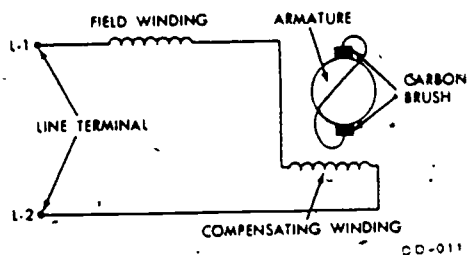

Figure 42. Schematic Wiring Diagram of a Single-Phase Repulsion Motor
**SIMPLE REPULSION MOTOR.** The simple repulsion motor consists of a single concentric type stator, a wound rotor, a commutator, two carbon brushes, compensating windings, and endbells. The stator windings and the compensating windings are connected in series. The compensating windings are used to improve the power factor in this motor. Two carbon brushes are employed on the commutator. The two brushes are short-circuited to each other. This motor has the operating characteristics of high starting torque and low starting current draw. Although its starting torque is useful, its large variation of speed with load is not desirable in many applications. This motor is commonly made in sizes from 1 to 10 horsepower and is used to power such load as conveyors, small compressors and woodworking equipment. The simple repulsion motor is shown in figure 42.